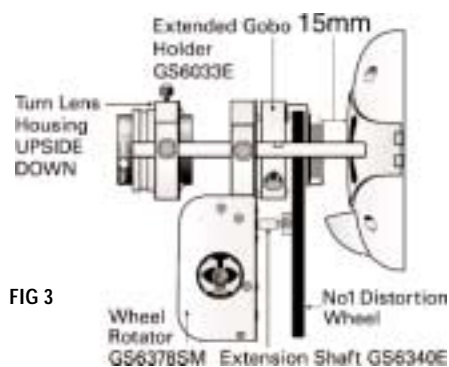

FIG 3
**FIG 3** A number 1 Distortion Wheel fitted onto a Variable Speed and Direction Wheel Rotator (GS6378SM) with an Extension Shaft (GS6340E) in front of a gobo creates the effect of the projected image being underwater or a flag blowing in the wind.